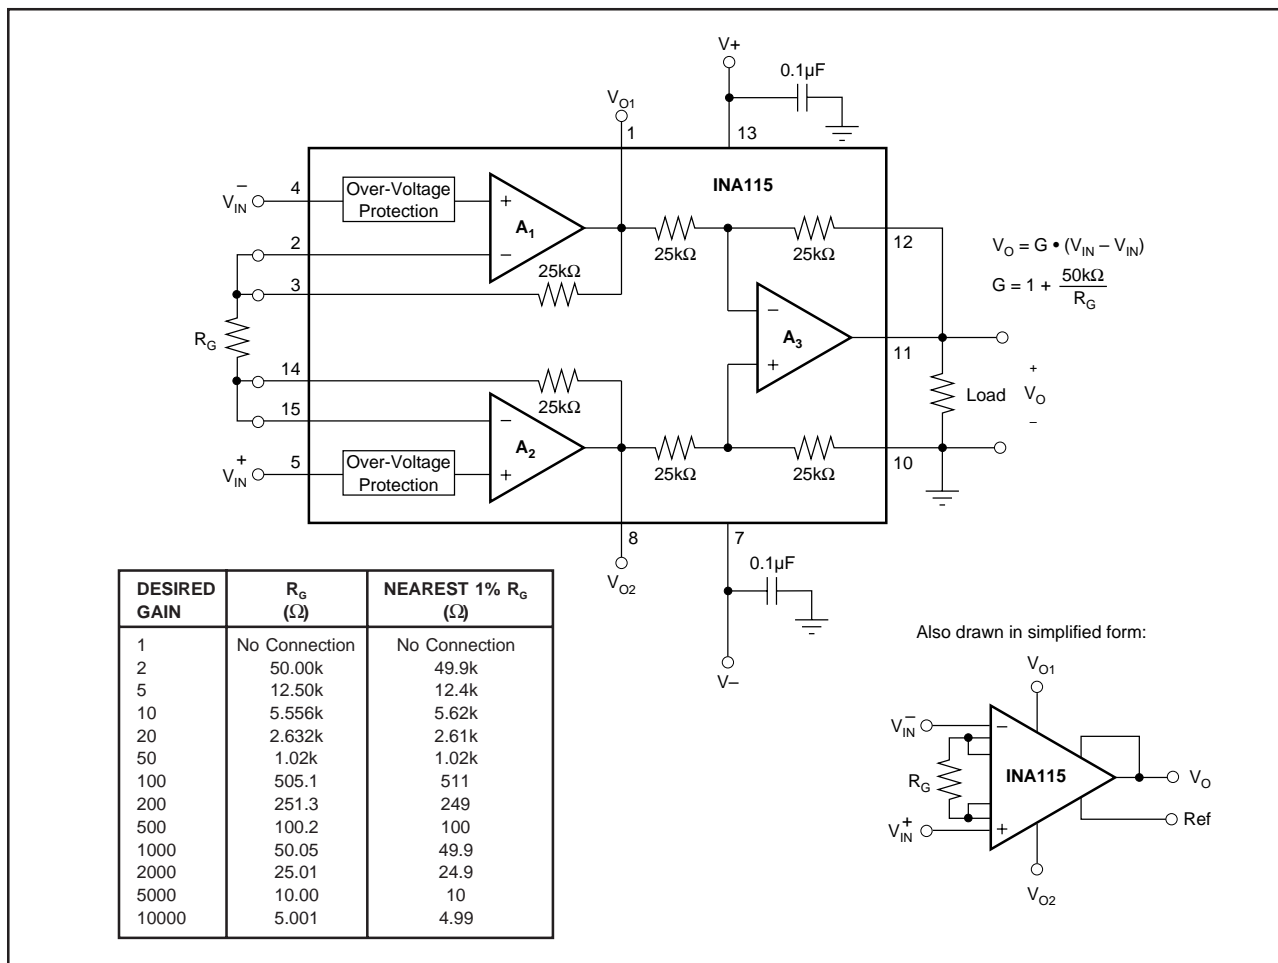

FIGURE 1. Basic Connections.
Figure 1 shows the basic connections required for operation of the INA115. Applications with noisy or high impedance power supplies may require decoupling capacitors close to the device pins as shown.
Commonly used gains and resistor values are shown in Figure 1.
The stability and temperature drift of the external gain setting resistor,  $R_G$ , also affects gain.  $R_G$ 's contribution to gain error and drift can be directly inferred from the gain equation (1). Low resistor values required for high gain can make wiring resistance important. The “force and sense” type connections illustrated in Figure 1 help reduce the effect of interconnection resistance.